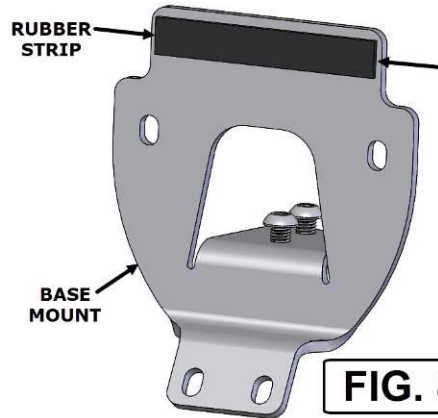

FIG. 8
9. REMOVE THE MASKING AND PLACE THE RUBBER STRIP SUPPLIED IN THE KIT ON THE BOTTOM SIDE OF THE BASE MOUNT AS SHOWN IN FIG. 8.